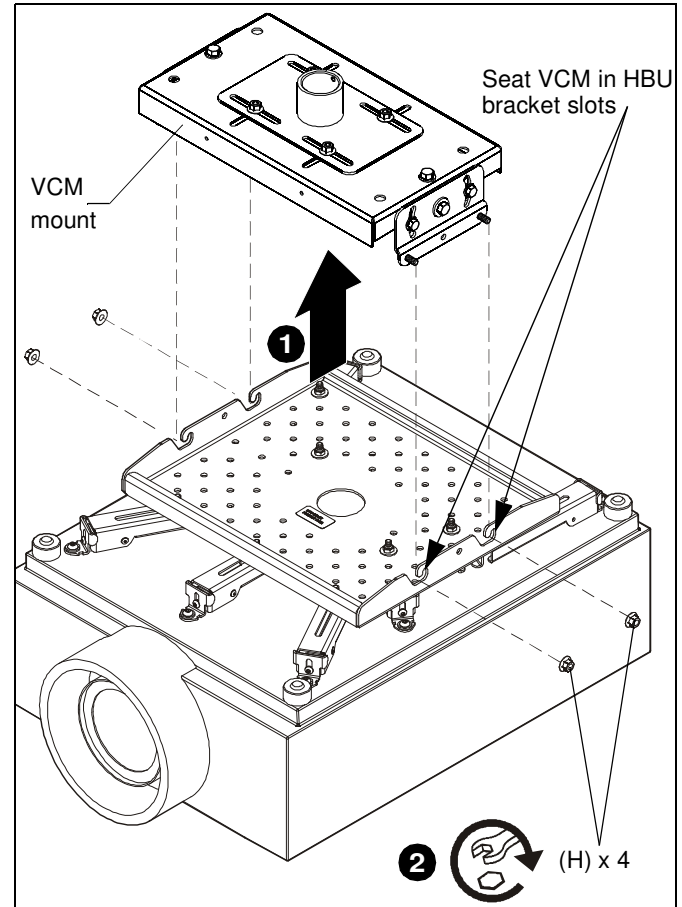

Figure 4
- With help of assistants, lift the HBU bracket with the attached projector and install it to the four studs extending from the VCM ceiling mount (not included). (See Figure 4)
IMPORTANT ! : Ensure that the VCM ceiling mount is seated in slots on HBU bracket. (See Figure 4)
- Fasten with four 5/16" flange nuts (H). (See Figure 4)